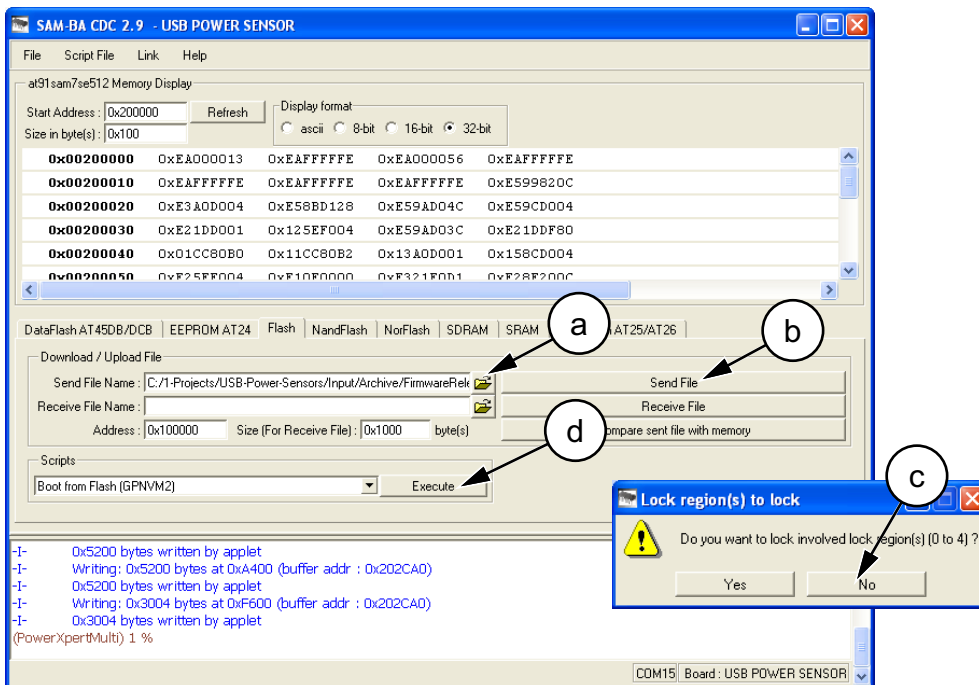

Figure B-18. SAM-BA Firmware Upgrade Utility
11. When the SAM-BA firmware upgrade utility shown in Figure B-18 appears, do the following: